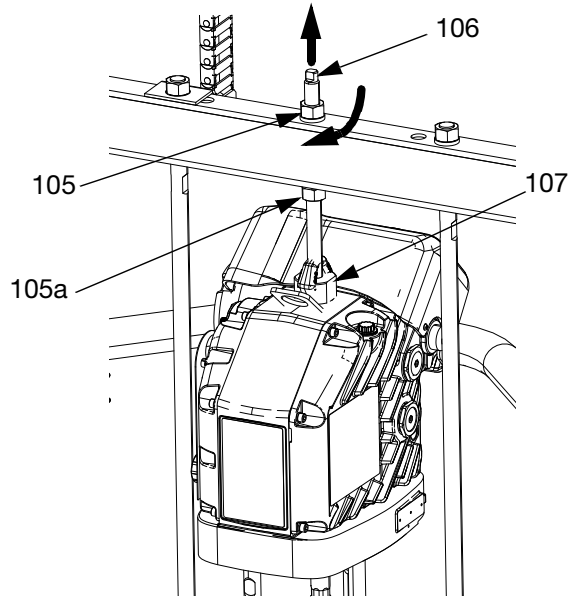

FIG. 24
- a. Use wrench on nut (105) on top of ram bar to lower driver onto displacement pump. See FIG. 24 on page 33. Thread nut (105) up and tighten it under ram bar. Tighten nut (105) below the crossbar to 25 ft-lb (34 N•m) maximum.